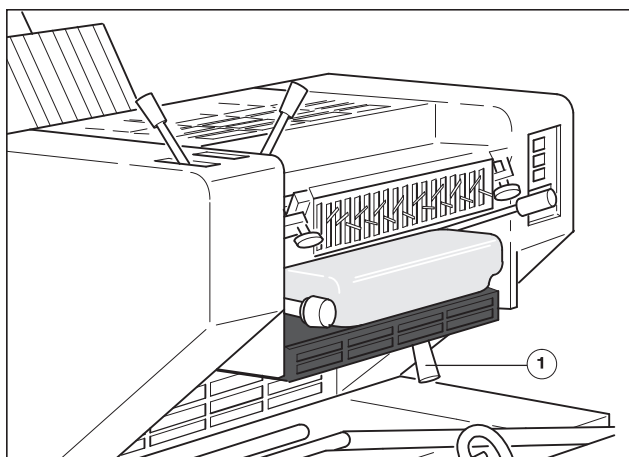

Fig. 9 Lever for separating the inking unit and dampening system
1. Pull the lever (Fig. 9/1) downwards to separate the dampening system from the inking unit.